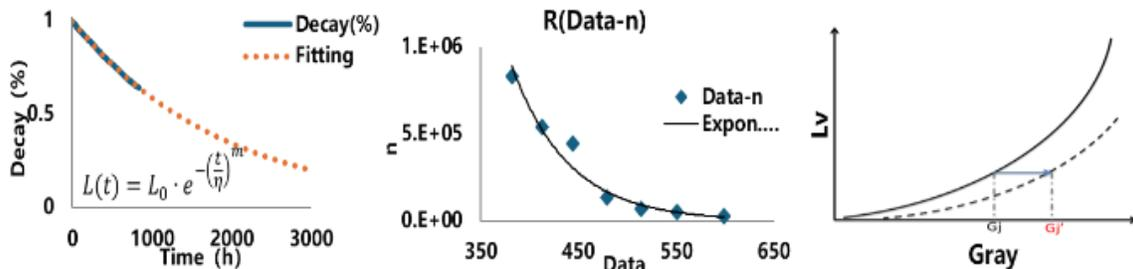

Figure 2: Measurement and curve fitting
3. Brightness compensation: Apply the DBI compensation formula to adjust luminance based on the actual panel brightness. The steps involved in the DBI compensation process are illustrated in Figure 2.